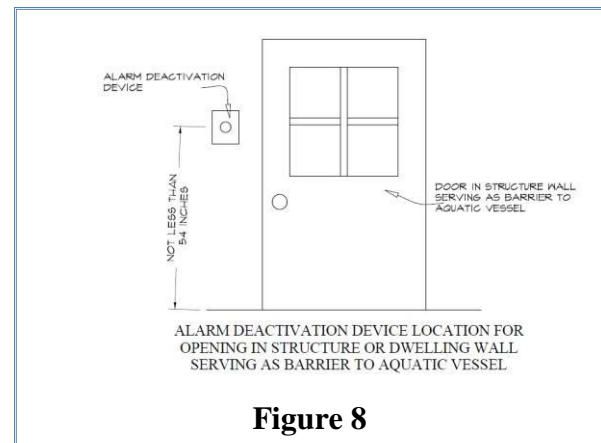

Figure 8
2. Doors, and operable windows with sill height of less than 48", with direct access to the pool, shall be equipped with an alarm in accordance with UL 2017. The deactivation switch(es) shall be located at least 54 inches above the threshold of the door. **See Figure 8**